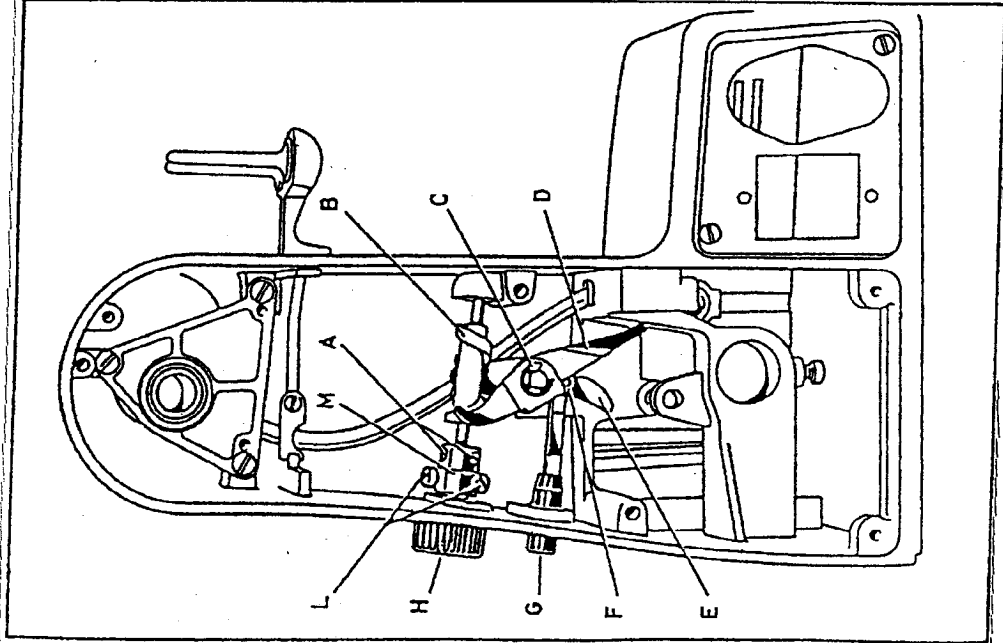

Fig. 24
- balance wheel, extract Benzing ring and remove junction A and stitch regulator connecting rod M. loosen the two screws L and the two grub screws A (fig.24);
Assembly (fig.24)